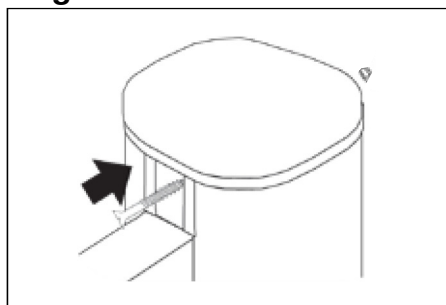

Figure 10
- B. Push the post cap bolt through the cap and post, then use the hexagonal nut to tighten. See **Figure 10**.